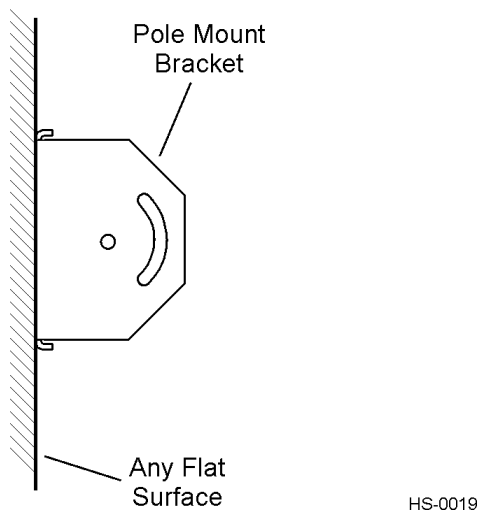

Figure 35 Pole Mount Bracket Attached to Wall
- Mount the pole-mount bracket to the wall, ceiling, or fixture using appropriate anchors as shown in Figure 35.